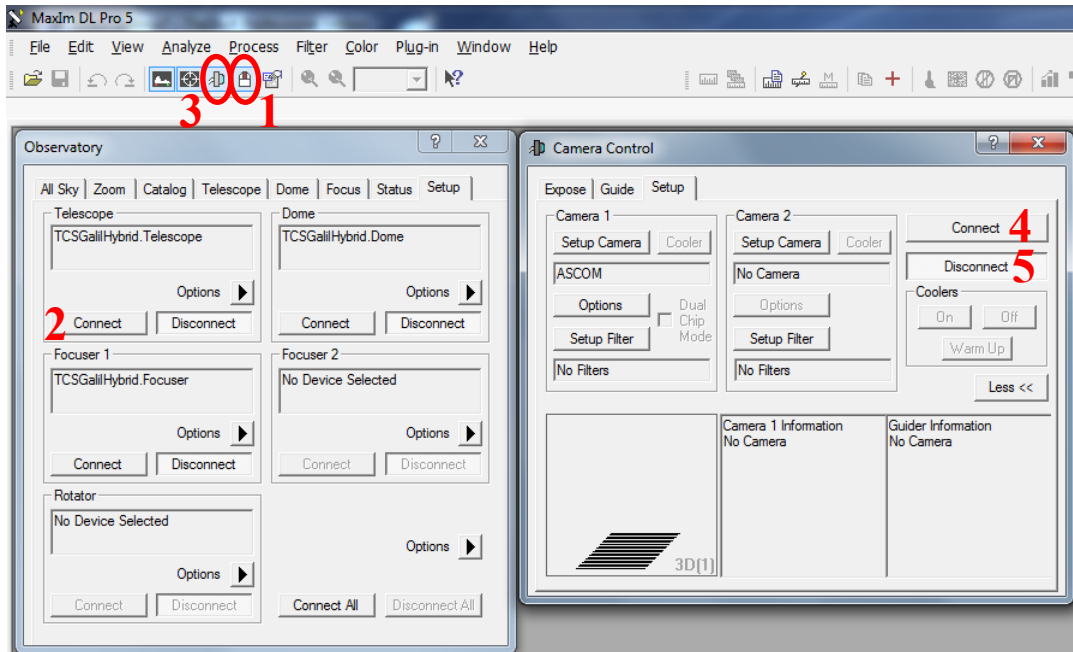

Fig. 3.2. Connection between the telescope and the A/G using the MaxIm DL software.
2. Click on the “Toggle Observatory” button (Fig. 3.2 No 1). The “Observatory” window opens by default on the “Setup” menu. Press the “Connect” button (No 2). Close the window.
1. On the “Camera Control” window, click on the “Setup” tab and press the “Disconnect” button (Fig. 3.2 No 5).